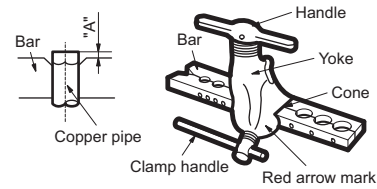

**Fig. 14 – Pipe Cutting**
- a. Cut the pipe, with a pipe cutter, at 90 degrees (see Fig. 14).